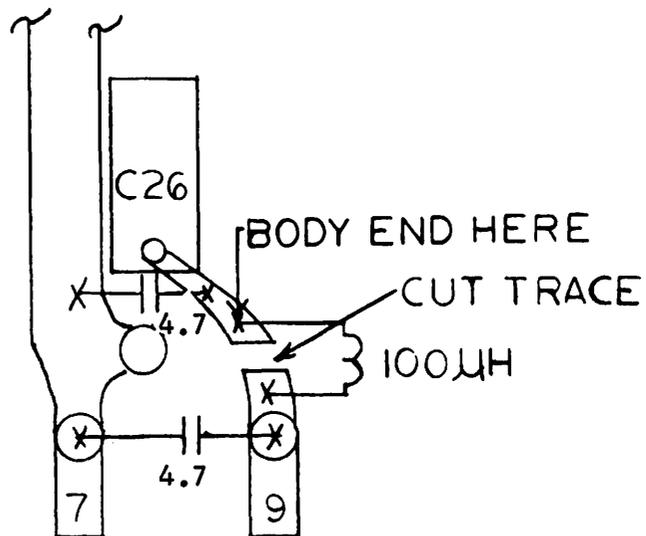

FIGURE 2
(See Figure 2)
- VIII. Install 100μh coil in two remaining holes (See Figure 2)